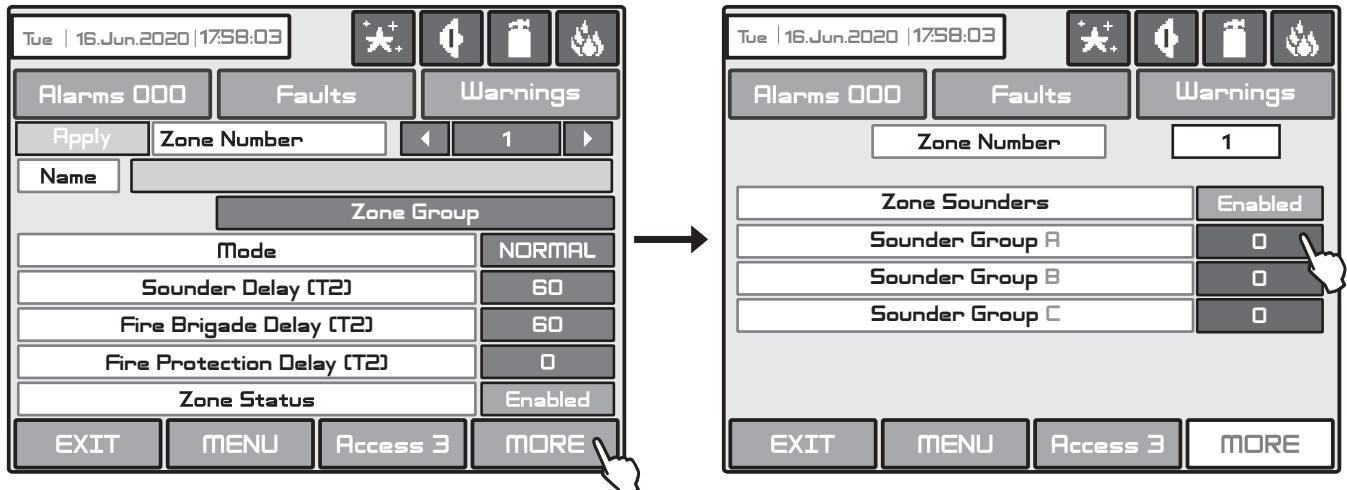

Fig. Screen 14B.
- **Zone Sounders** - Set the operation of the sounders associated to the respective zone number (the one actually displayed in the submenu - number 1 in Fig. Screen 14B). The zone number is associated in the individual programming menu of every device – see item 3.3.2, Fig. Screen 9(a).